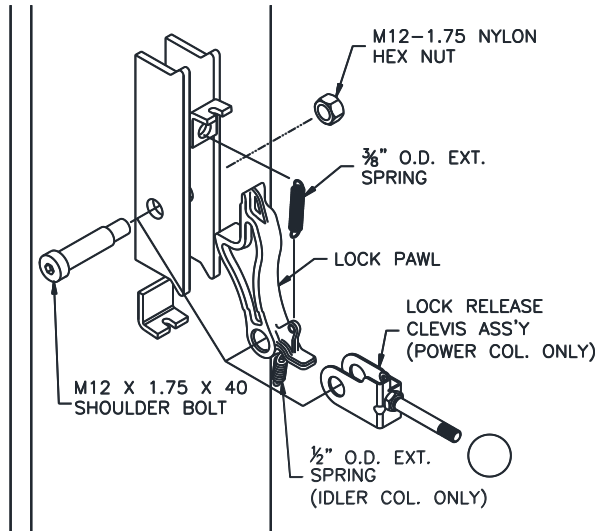

Fig 2 – Locking Pawl Assembly
- 4) Install Power Column locking pawl and lock release clevis with M12 x 40 shoulder bolt and M12-1.75 nylon lock nut, **Fig. 2**. Attach 3/8" O.D. extension spring to upper hole in locking pawl and other end to hole in bracket welded to column.
- 5) Attach 1/2" O.D. extension spring to hole located on bottom side of Idler Column lock pawl and install using M12 shoulder bolt and lock nut, **Fig 2**. Attach 3/8" O.D. spring the same as Power side.